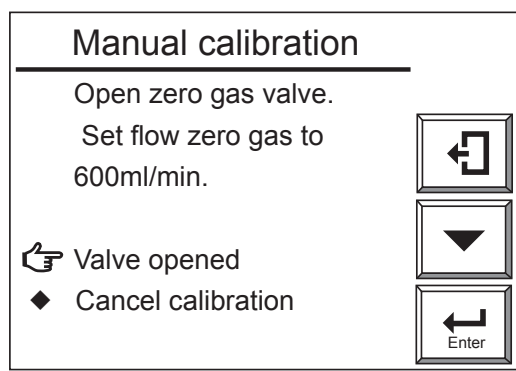

Figure 10.19 Manual Calibration Display
- (1) When the display shown in Figure 10.19 appears during calibration, open the zero gas flow setting valve of the flow setting unit and adjust the flow rate to 600 ± 60 ml/min. To rotate the valve shaft, if the valve has a lock nut loosen the lock nut and slowly turn it counterclockwise. To check the flow rate, monitor the calibration gas flowmeter. If the sample gas pressure is extremely high, adjust the sample gas pressure to obtain pressures (listed in Table 10.7) $\pm 10\%$.